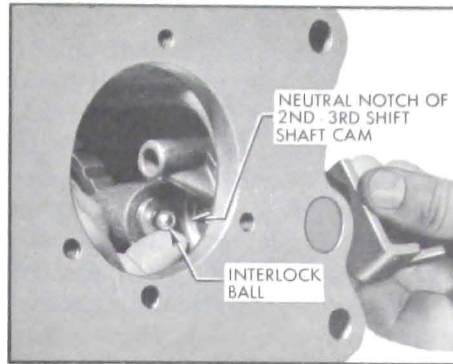

Figure 4-28—Installing Interlock Ball
5. Move first-reverse cam toward transmission housing. Install interlock ball and move cam back to original (normal) position allowing the neutral (center) notch of cam to retain ball. Install tapered shift shaft lock pin. See Figure 4-28.